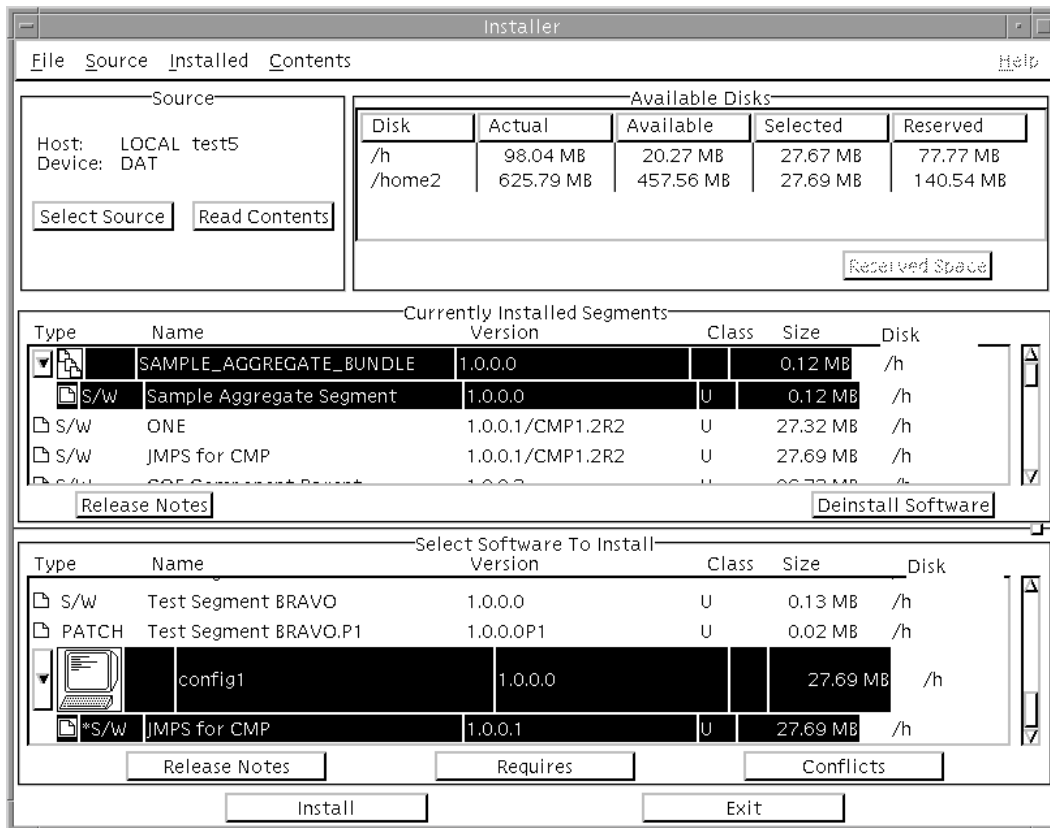

Figure 20. Installer Window with Select Software To Install Panel
Used to read the table of contents of the selected installation device. Click on the `Read Contents` button. The media will be scanned for the segments that it contains, and then the `Installer` window will add the `Select Software To Install` panel, which lists the segments that the media contains (Figure 20). Any number of segments may be selected in this panel for installation. See Section 6.4.1.3, *Installing Segments*, for additional information about the segment installation process.
- STEP 2: **Read the table of contents of the selected installation device.** Click on the `Read Contents` button in the `Source` panel. The media selected on the `Select Source` window will be scanned for the segments it contains, and then the `Installer` window will add the `Select Software To Install` panel, which lists the segments that the media contains (Figure 20). Any number of segments may be selected in this panel for installation.